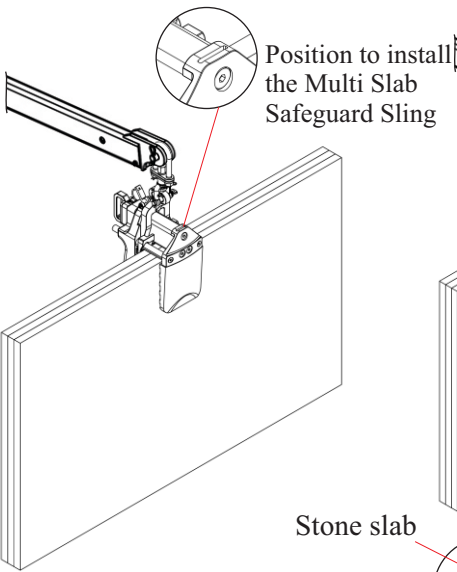

Figure 7.2
- After the lifter lift the stone slabs out of the frame (Figure 7.2), install the Multi Slab Safeguard Sling to the lifter (Figure 7.3).